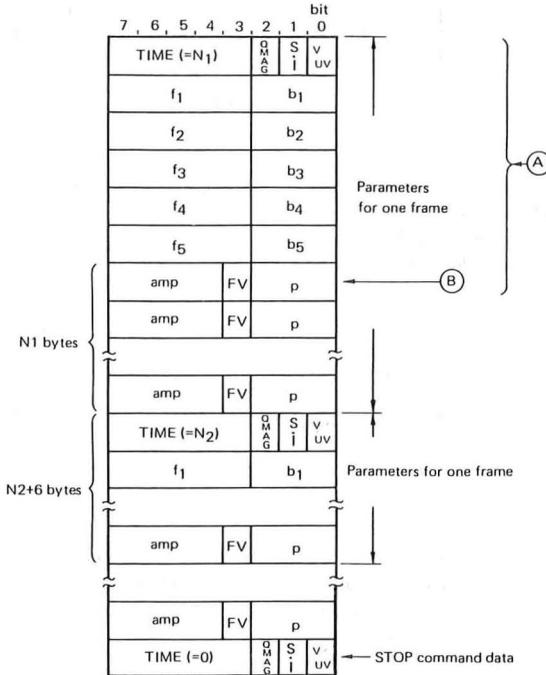

Fig. 8 Formant Parameter
The formant parameters used for voice generation according to the Internal or External Message Select Command are stored in the internal ROM of the μPD7752 or external ROM in the data format as shown in Fig. 8.
- 4) For transfer of subsequent formant parameters per frame (see Table 1), be sure to transfer 7 bytes (shown by Ⓐ in Fig. 8 when the REQ signal is output 7 times) or 1 byte (shown by Ⓑ in Fig. 8 when the REQ signal is output only one time) of formant parameter sequentially within 3/4 frame.
With TIME = 3, the 7 bytes shown by  $\text{\textcircled{A}}$  in Fig. 8 are used in the first frame, and amp (amplitude), FV (fricative voice) and p (pitch) only are changed in the next frames.